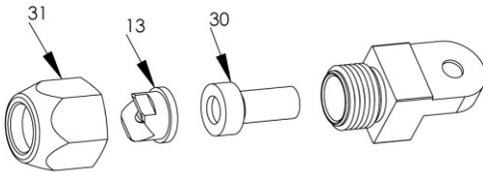

FIG.1.
4. With the gun safety knob locked, unscrew the tip guard (31) and install the tip (13) and filter assembly (30) in the tip guard nut. Screw the assembly firmly onto the gun. Tighten with a wrench. See Fig. 1.
3. Turn the spray tip so the groove is horizontal for a horizontal spray pattern and vertical for a vertical pattern. See Fig. 1.
3. Remove the tip (13) and the filter (30). See Fig. 1.